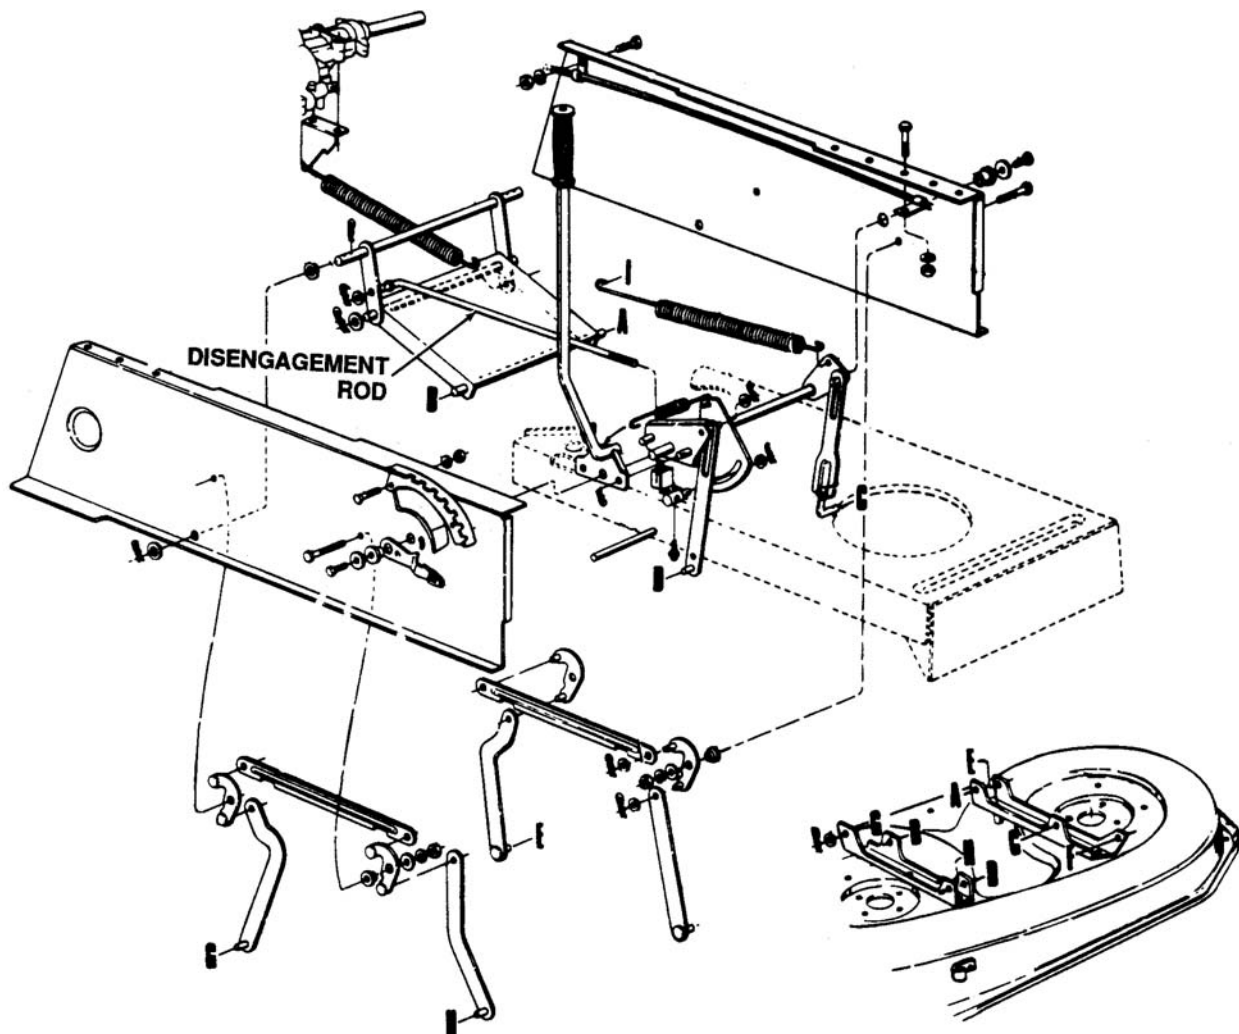

Figure 12-4. Location of Disengagement Rod
- 7. Belt fails to engage/disengage. The disengagement rod must be adjusted before operating the lawn tractor to be sure belt engages and disengages at the first notch on detent bracket. See Figure 12-4.